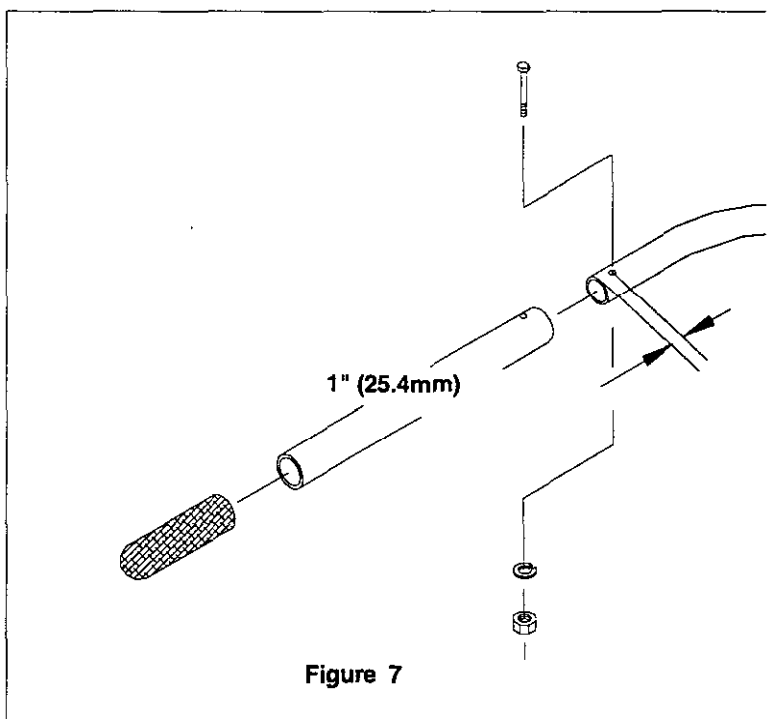

Figure 7
13. Drill a .281 diameter (7.14mm), 1" from the end of the Handle as shown in Fig. 7.